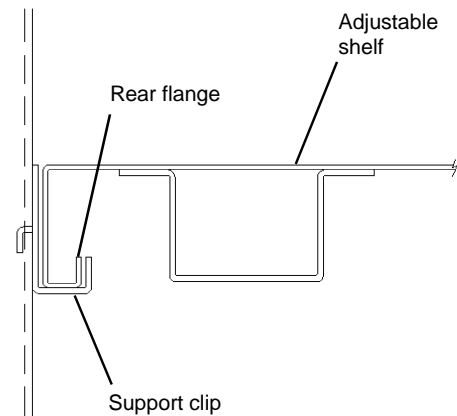

Figure 6
2. Lift the rear of the Shelf and slide it back until the Rear Shelf flange engages the Support Clips (where applicable) and the vertical tabs on the Support Rails. See **Figure 6**.